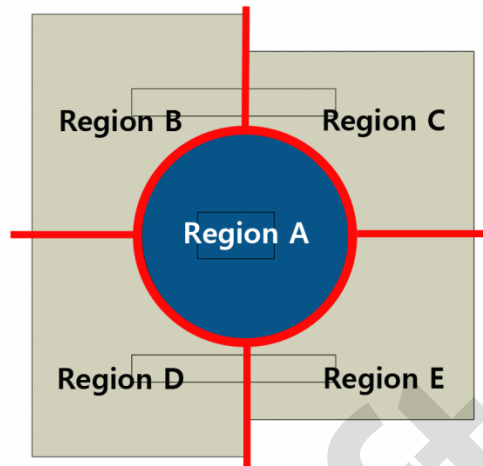

Figure 4 - Individual Region Segments of Building Structures
- 5) The construction sequence analysis including NI building structure will be performed based on the preliminary simplified construction sequence as summarized in the Table below. Figure 4 depicts the location of Regions A-E.